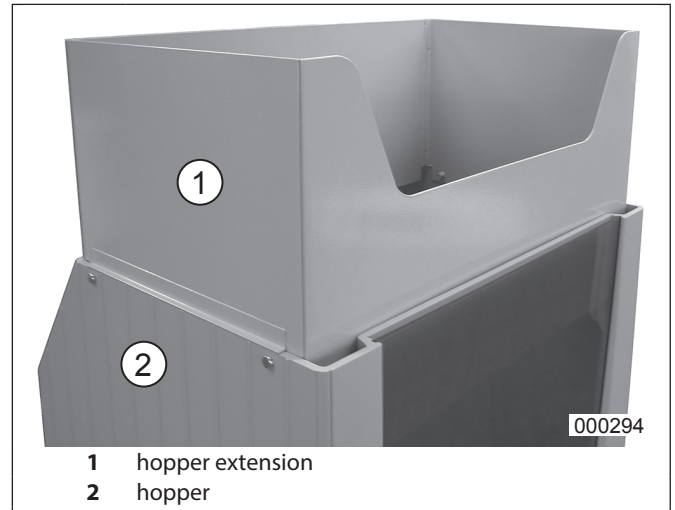

fig. 1 Assembly of the hopper extension
2. Mount the hopper extension (fig. 1/1) (see description below).
Take the hopper extension (fig. 1/1) out of the cabinet and place it as shown on top of the hopper (fig. 1/2). Fix the hopper extension with the four provided screws to the hopper itself.
For access safety reasons the machine must only be operated if the hopper extension is assembled to the hopper (fig. 1).